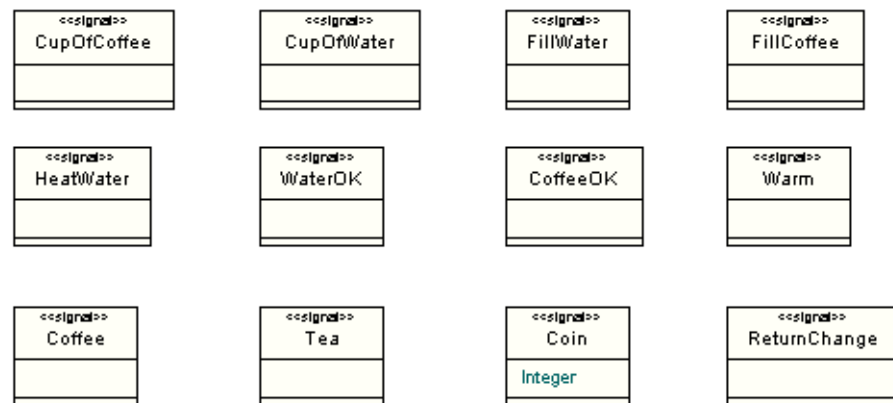

Figure 7: Signal definitions
4. Signal **Coin** will carry one signal data of type integer. This signal data will hold the value of the inserted coin(s). Add the type **Integer** in the middle compartment of the symbol representing signal **Coin**, see Figure 7 on page 15.